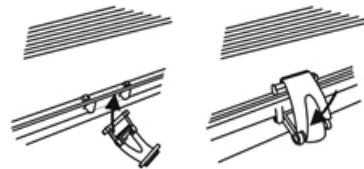

Figure 1: Diffuser clip diagram
12. Fit the diffuser clips (if not already fitted) and then fit the diffuser, see figure 1.